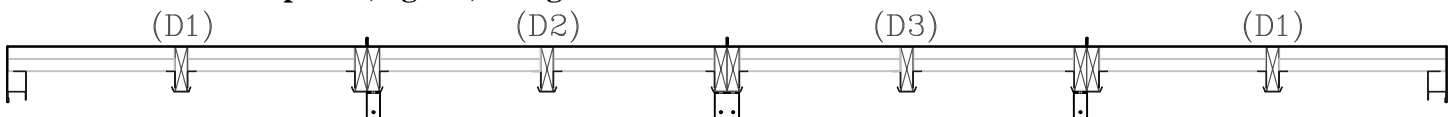

FIG. 3
11. Position the “D2” and “D3” (roof) middle panels (Fig. 3) between the “D1” (roof) end panels and set them in place. Place the “D3” (roof) panel at one end, and then fit the “D2” (roof) panel into the final position.
- 17. Position a Wide Roof Bracket under the “D2-D3” panel rafter connection at the “F” (support) post stud (Fig. 3) on the first side of the enclosure and then fasten it in place using four (4) Hex Head Screws.**
- 18. Position Narrow Roof Brackets under the “D1-D#” panel rafter connections at the “B” (side) panel stud locations (Fig. 3) on the first side of the enclosure and then fasten them in place using two (2) Hex Head Screws per bracket.**